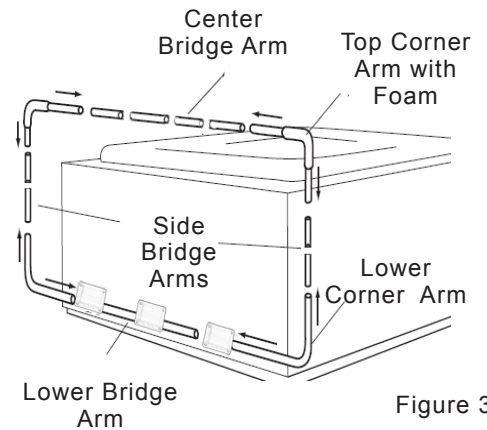

Figure 3
Insert the long end of the **Lower Corner Arms (B)** into the **Mounting Brackets** to the back side of the spa (See Figure 3). Next, insert the **Top Corner Arms (A)** into the **Center Bridge Arm (C)**. Then join the **Top Corner Arm** sections to the **Lower Corner Arm** sections, sliding the short portion of the **Corner Arms** into the **Side Bridge Arms (C)**.
**Note:** Place a **#10 self tapping screw (J)** into the **Lower Support Arm** next to the outside edge of each **Mounting Bracket**. This will prevent the Lifter from sliding left or right.